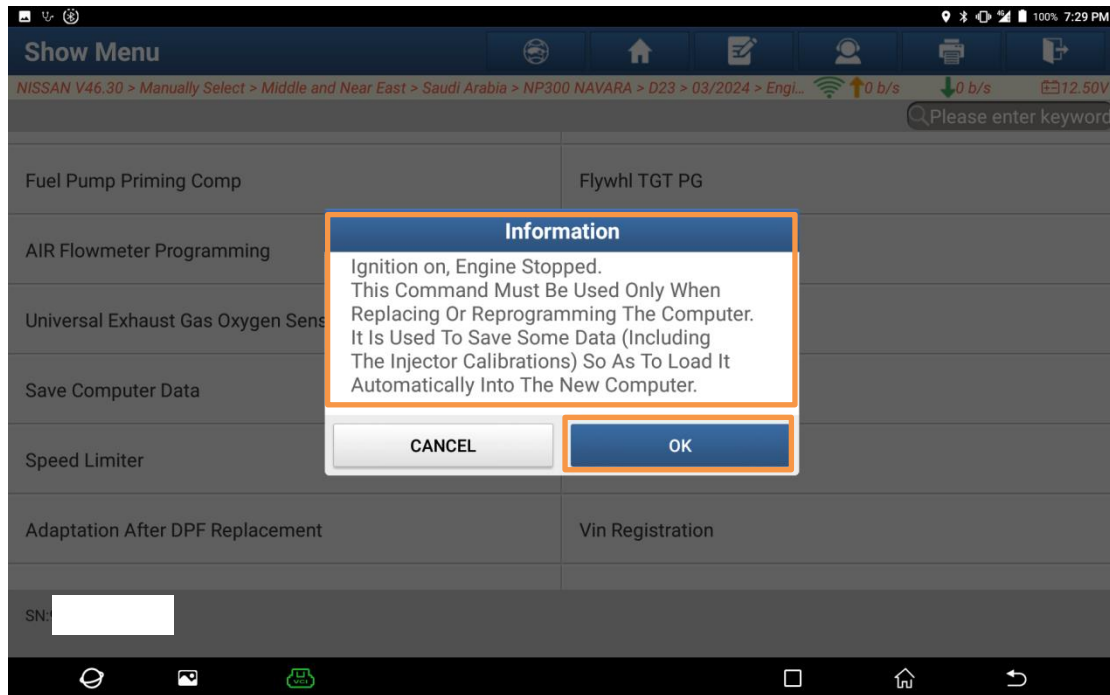
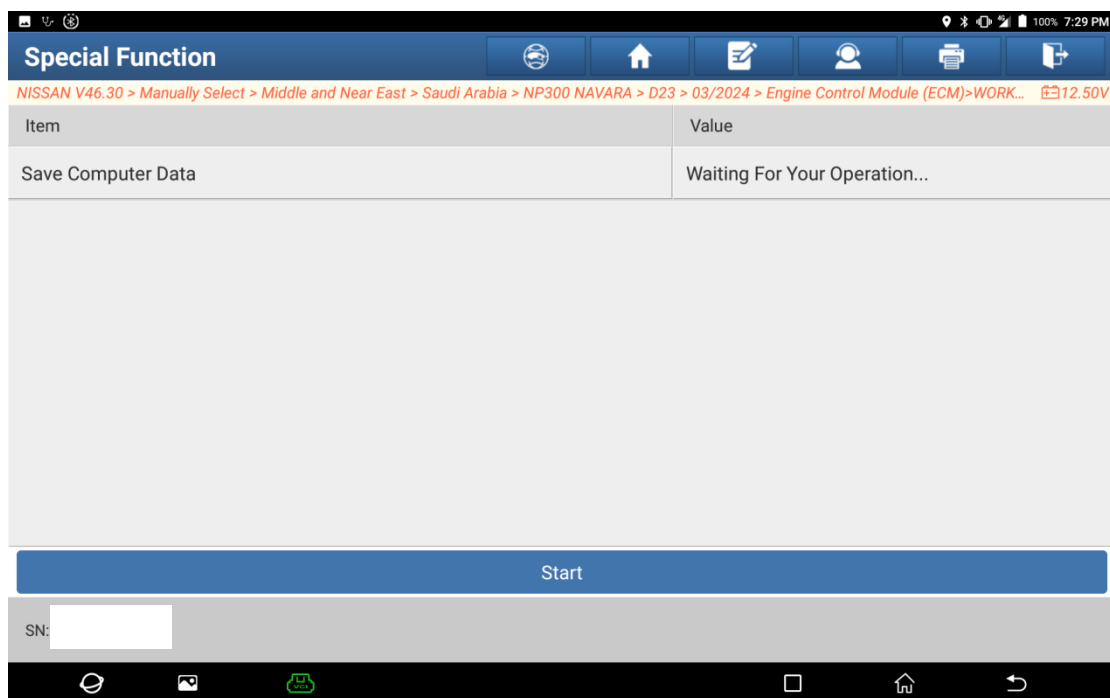

Figure 13
Figure 14
8. Read the pop-up prompts carefully (Figure 13). Ensure that the ignition switch is turned on and the engine is stopped. Click "OK" to enter the interface shown in Figure 14.